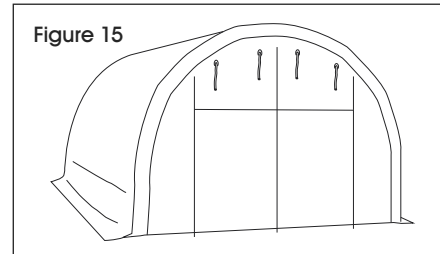

Figure 15
- Add the canopy end walls using the Velcro straps and then secure them using the ball straps. Next, tighten and secure the drawstrings at each corner foot. You have successfully set up your canopy (See Figure 15). Now that the canopy is set up, you may remove the ropes used for frame assembly.